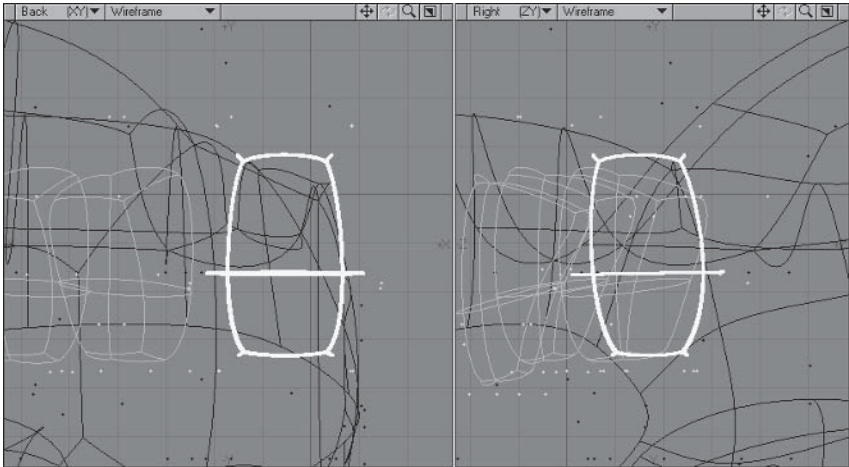

Figure 5.3-115. Shaping the molar.
- 7. **Copy** and **Paste** again, this time moving the new tooth out a little, and **Rotate** it so it's square on the orthographic views, allowing us to do more radical adjustments on it. This tooth is a molar, so adjust the points to match Figure 5.3-115.